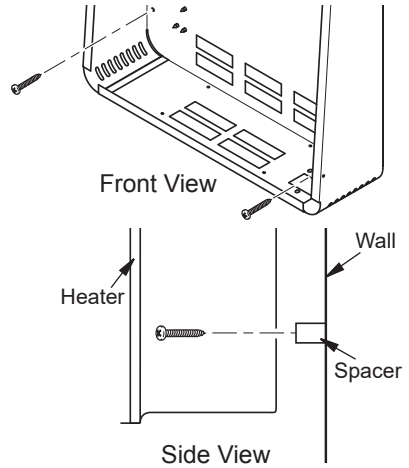

**Figure 10 - Mounting Heater Onto Mounting Bracket**
1. Locate two horizontal slots on back panel of heater (see Figure 10).